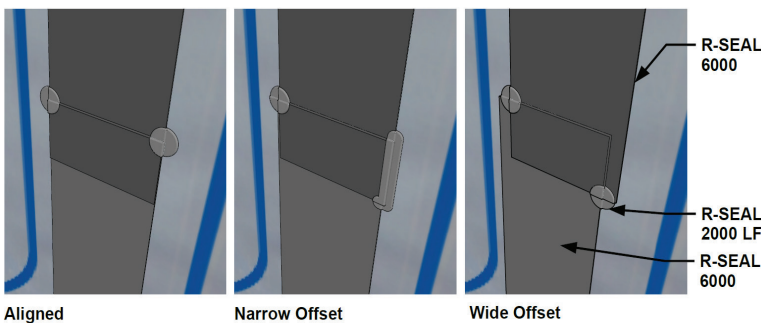

Figure 7
G. **Lapping:** When two layers of R-SEAL 6000 join at a horizontal or vertical application, overlap a minimum of 3" and apply R-SEAL 2000 LF or equivalent sealant along both edges where the overlap occurs. The sealant should extend radially beyond the pinholes potentially created by the overlap. **Reference Figure 7.**